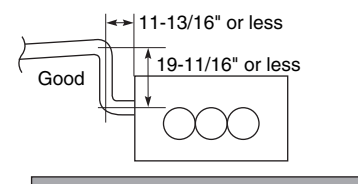

Fig. 3-94
- If it is necessary to increase the height of the drain pipe, the section directly after the connection port can be raised a maximum of 19-11/16". Do not raise it any higher than 19-11/16", as this could result in water leaks. (Fig. 3-94)